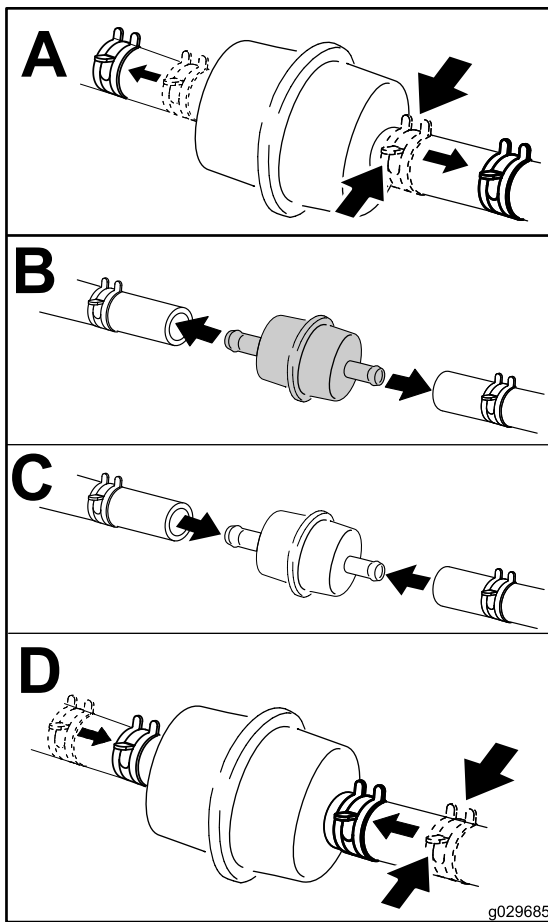

Figure 60
4. Replace the fuel filter (Figure 60).